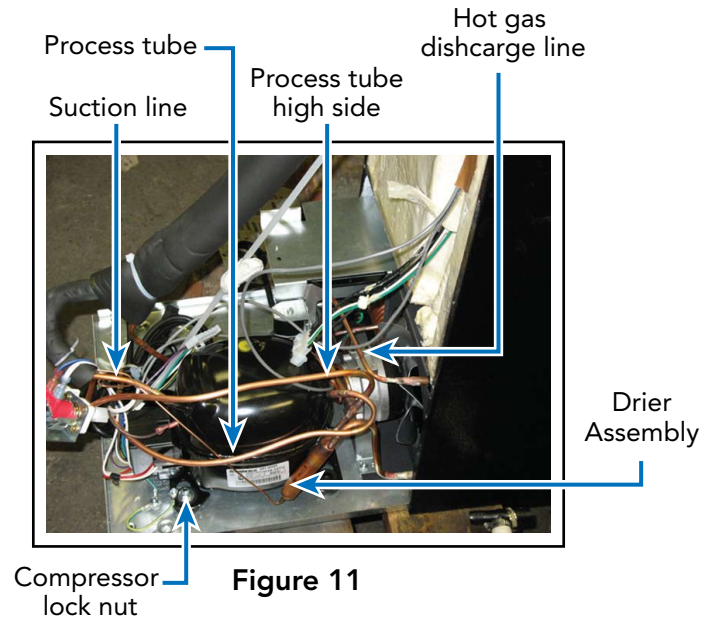

Figure 11
25. Unbraid and remove suction line at compressor (see **Figure 11**).
26. Unbraid hot gas discharge line at compressor (see **Figure 11**).
27. Remove compressor by removing the two lock-nuts on the mounting plate of the compressor. Lift compressor off of carriage bolts (see **Figure 11**).
15. Unbrazed and remove suction line at compressor (see **Figure 11**).
16. Unbrazed hot gas discharge line at compressor (see **Figure 11**).
17. Remove compressor by removing the two lock-nuts on the mounting plate of the compressor (see **Figure 11**). Lift compressor off of the carriage bolts.
15. Unbrazed the hot gas line from the compressor at the top of the condenser coil (see **Figure 11**).